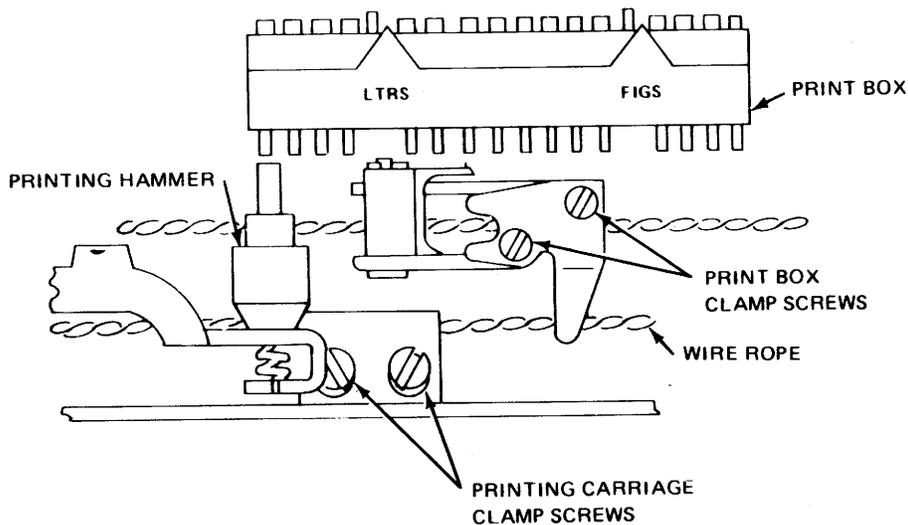
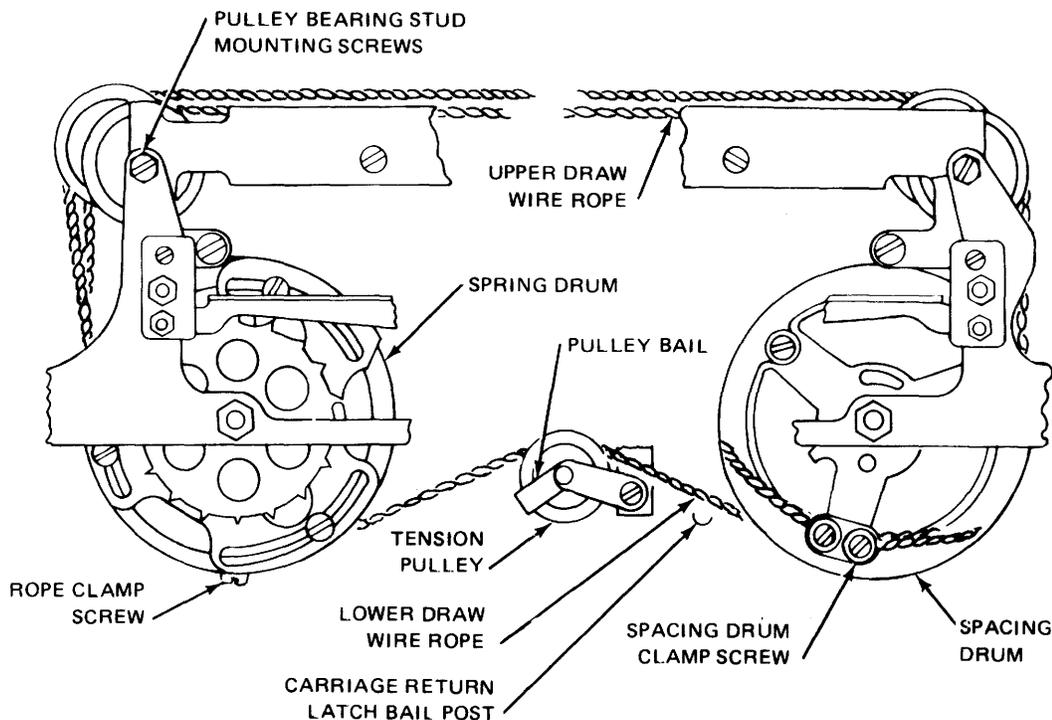

Figure 6-41. Printing Carriage and Print Box Clamps (Top View).
Figure 6-42. Upper Draw Wire Rope Routing (Front View).
c. Loosen printing carriage clamp screws; slide wire rope from between clamp plates (see figure 6-41).
e. Remove spacing drum clamp screw from spacing drum (see figure 6-42).
c. Route front half of wire rope (see figure 6-42):
- (1) Up along rear half of front groove in spring drum
- (2) Up and over left front pulley
- (3) Through printing carriage clamp (see figure 6-41)
- (4) Along side of right front pulley.
(5) Down rear half of front groove of spacing drum
(6) Through exit groove on spacing drum.
e. Route rear half of wire rope (see figure 6-42):
- (1) Up along rear groove in spring drum
- (2) Up and over left rear pulley
- (3) Through print box assembly and print box assembly clamp (see figure 6-41)
- (4) Over and down right rear pulley